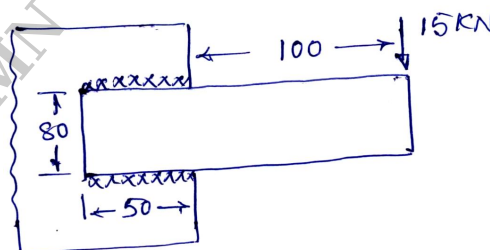

Fig.Q8(a)
- 8 a. A bracket having a load of 15 kN is to be welded as shown in Fig.Q8(a). Find the size of weld required, if allowable shear stress is not to exceed 80 N/mm^2 .